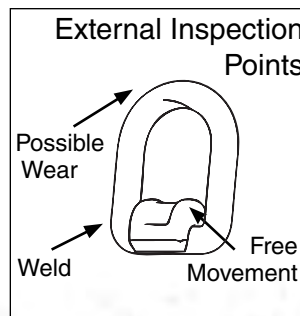

Figure 3
- Regularly inspect weld-on pivoting link parts (Figure 3).